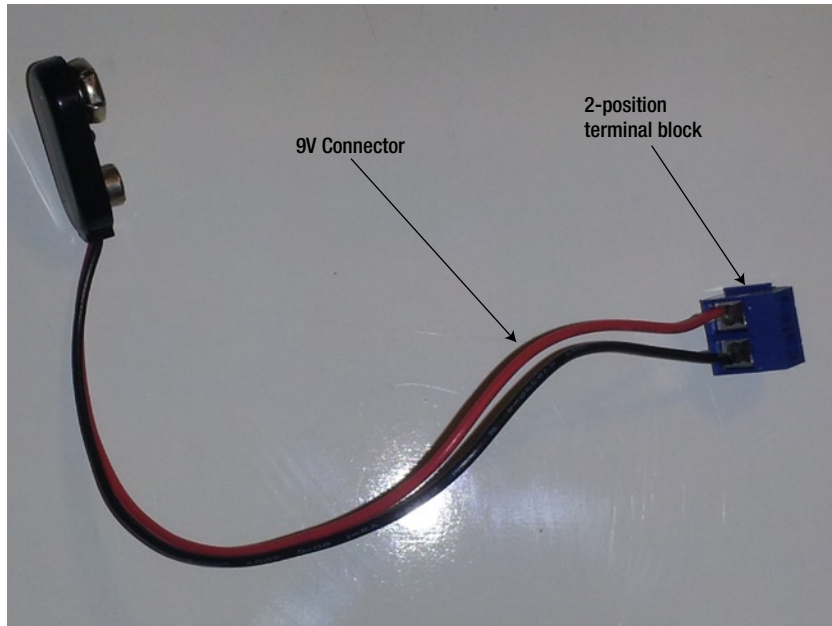

Figure 27-5. Attach the battery connect to the two-position terminal block
4. Now insert the wires of the battery connector into the two-position terminal block. (Take a look at Figure 27-6 to see how we did it.) Also, make certain to connect the jumper wires for +6V to the row that matches the red wire, and the jumper wires for ground to the row that matches the black wire. Figure 27-5 illustrates this process.